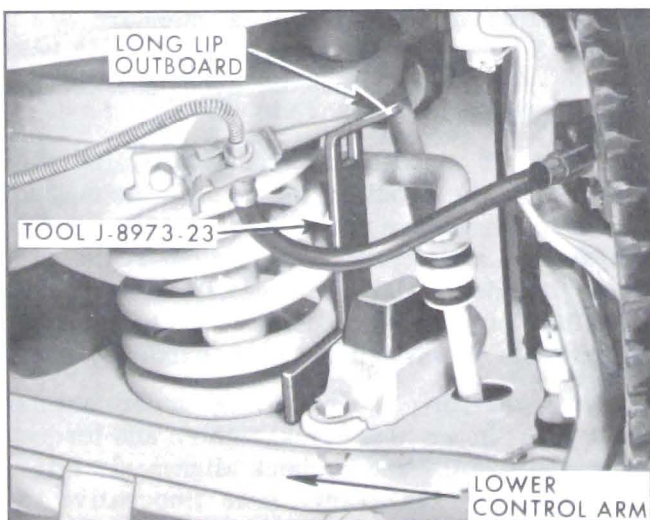

Figure 7-27—Front Alignment Height Tool in Place
8. Car must be on level surface. Install alignment height tool J-8973-23 between frame and lower control arm at each front wheel as shown in Figure 7-27. Use tool J-8973-19 in rear between frame and rear axle housing